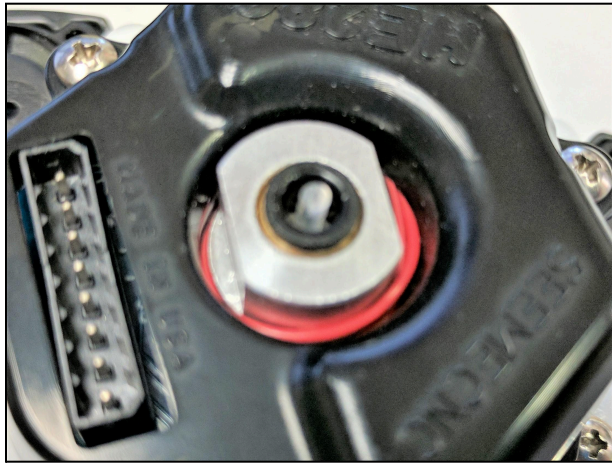
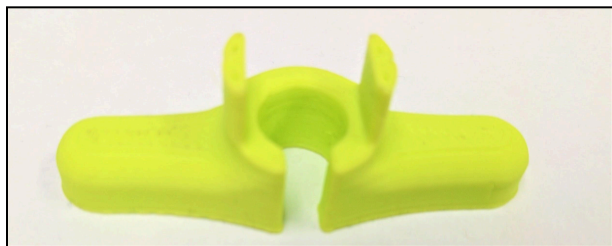

Figure 1. PTC Adapter
Figure 2. Printable PTC Tool
2. Loosen the PTC adapter (Figure 1) in the top of the hot end EXACTLY 2 rotations. (This is the aluminum part on the top of the hot end that has two wrench flats.) You can get this loosened with a pair of need-nose pliers, or you can download this handy tool: PTC TOOL (Figure 2)